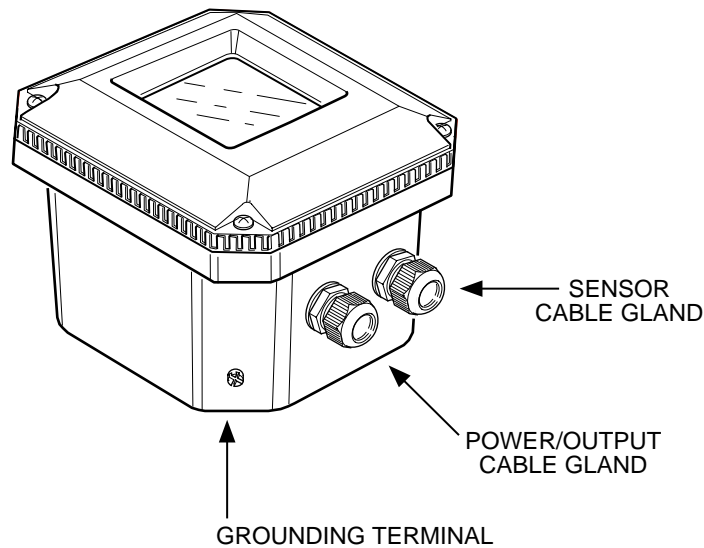

Figure 3-7. Glands to be used for cabling
4. Connect the sensor input, using the gland on the right (see fig. 3-7). Switch on the power. Commission the instrument as required or use the default settings.